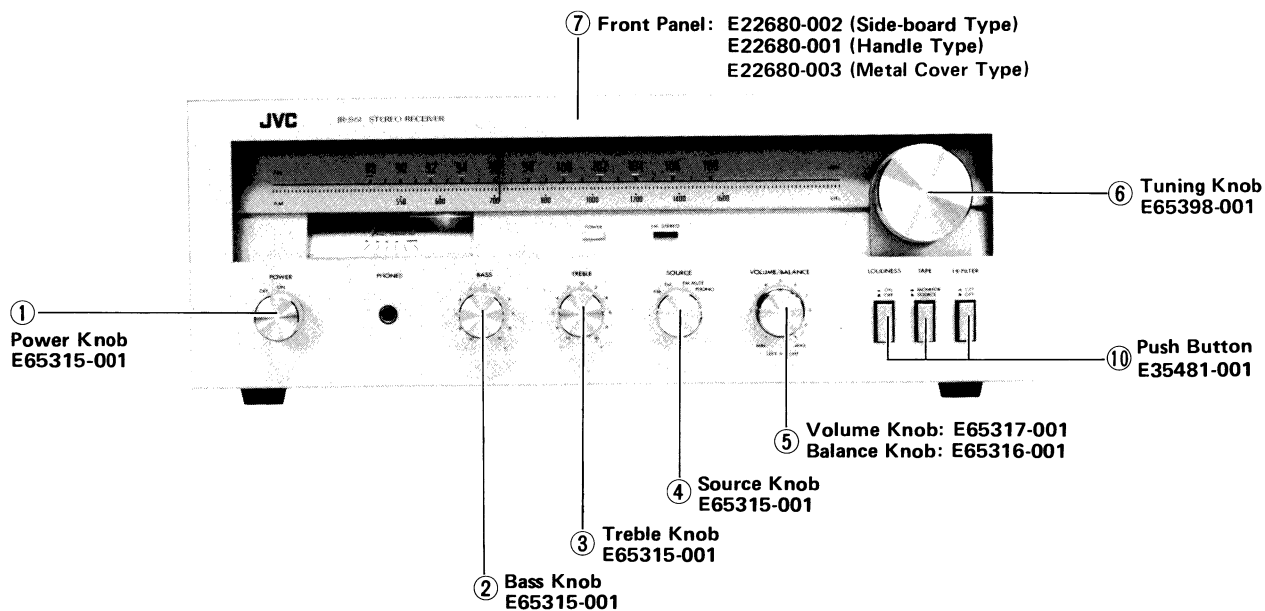

Fig. 4
2. Pull out the knobs item no. 1 through no. 6 carefully. Refer to Fig. 4.